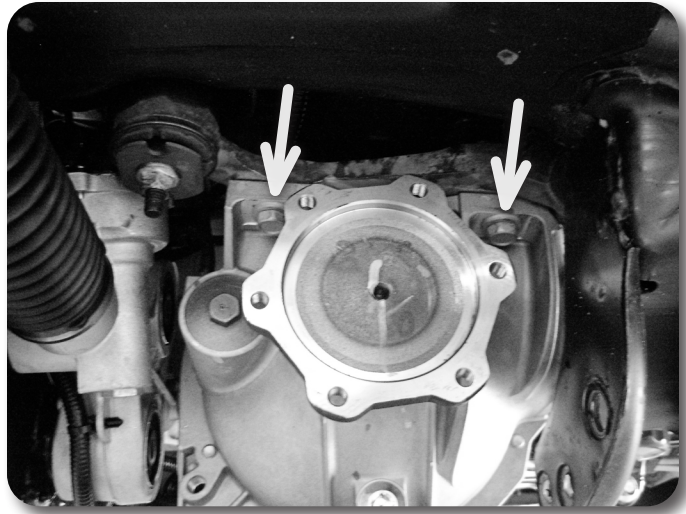

Figure 18
32. Support the front differential with an appropriate jack. Remove the two driver's side differential mounting bolts Figure 18 and the two passenger's side mounting nuts. Carefully lower the differential to the ground. Save mounting hardware.